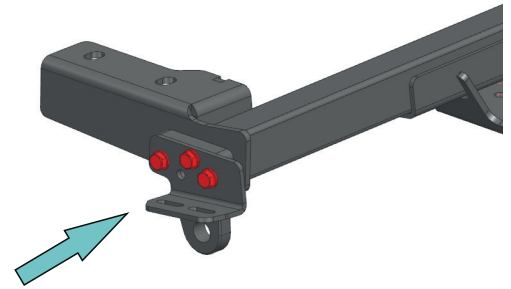

Fig. 14
14. Fix towing hooks (item 17), bumper body bracket left (item 10) and bumper body bracket right (item 11) using bolts M12x1.25x70 and washers 12 (item O,G) (Fig. 14). ***Tighten hardware after that.**